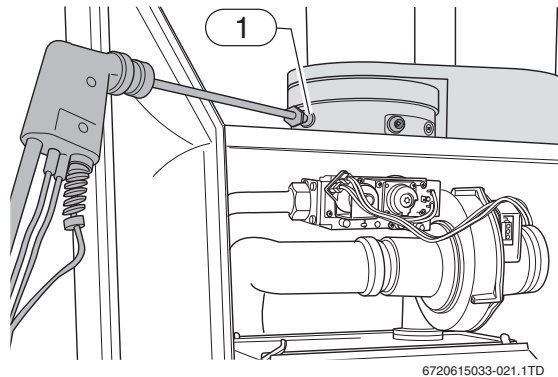

Fig. 20 Measuring the CO content
- ▶ Measure the CO content on the flue gas sampling point (→ fig. 20, [1]).